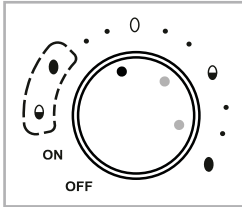

Fig. 3
- Select the **middle** dot of the range (fig. 3) if you want to cook 7 refrigerator-cooled eggs of medium size (size M/L):